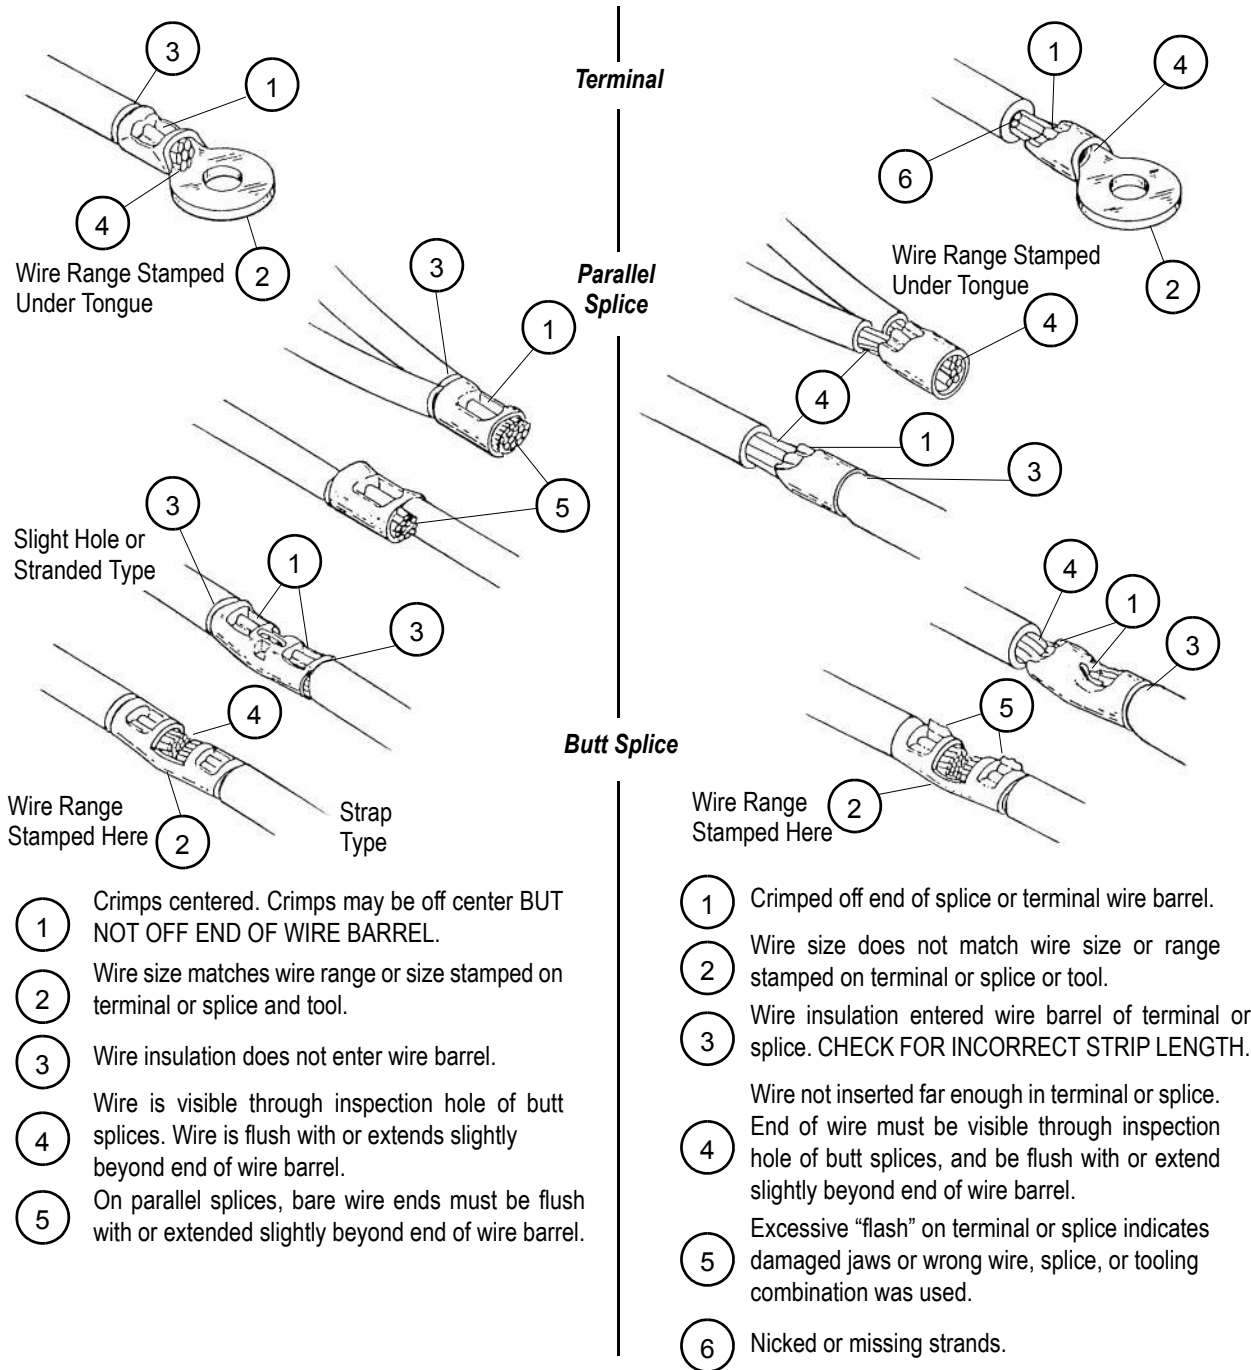

Figure 4
7. Refer to Section 5 and Figure 4 for crimp inspection.
Inspect crimped terminals and splices by checking the features described in Figure 4. Use only terminals or splices that meet the conditions shown in the “ACCEPT” column. “REJECT” terminations can be avoided through careful use of instructions in Section 4, and by performing regular head maintenance, as described in Section 6.